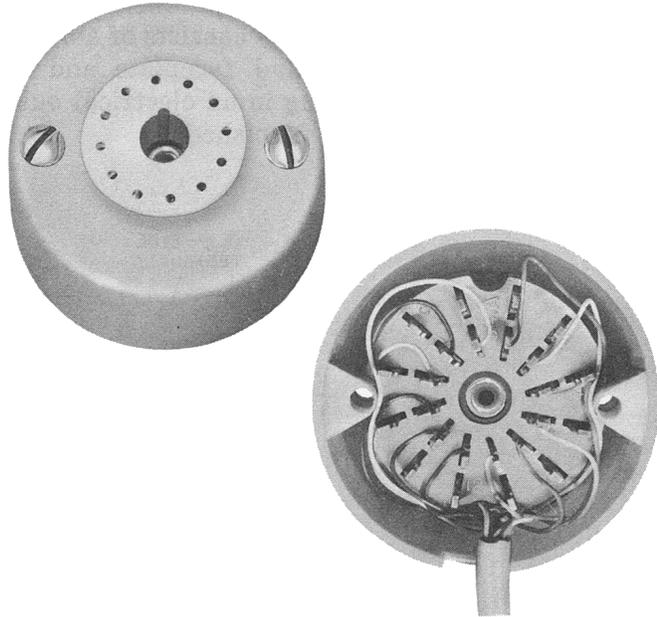

Fig. 20 — 551A Jack
**2.20** The 551A jack (Fig. 20) is a one-piece, 12-contact, nonflush-type jack intended for baseboard mounting. Mounting hardware is furnished.